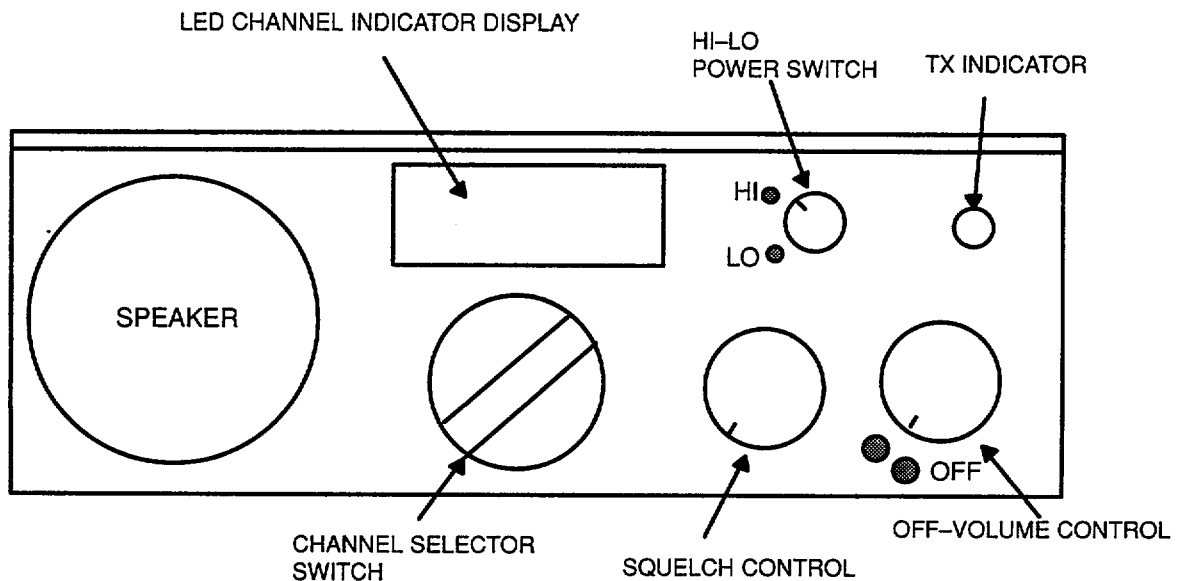

Figure 2-6. VHF/FM Marine Radio Control Panel
**2-10.15 Marine band VHF/FM radio.** This is mounted below window frame on starboard side of operator's position. Figure 2-6 shows controls and indicators for this radio.
**2-13.1 Radio operations.** Very High Frequency/Frequency Modulation (VHF/FM) commercial marine radio (Figure 2-6) operates in 156 to 162 MHz frequency range with 25 watts of Radio Frequency (RF) power. Channels 01, 02, 03 and 15 receive only weather and environmental announcements. Channel 15, per Federal Communications Commission (FCC) regulations, operates on an output of only 1 watt. When barge is deployed in US coastal waters and radio is not involved in two-way communications, monitor channel 16. Commercial and United States Coast Guard (USCG) vessels initiate contact on this channel.